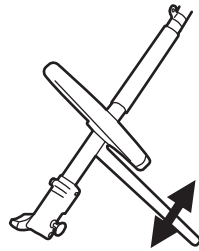

Fig. 1b
1. Loosen the bolts on the auxiliary handle (A15) and adjust the position. (See Fig. 1b)